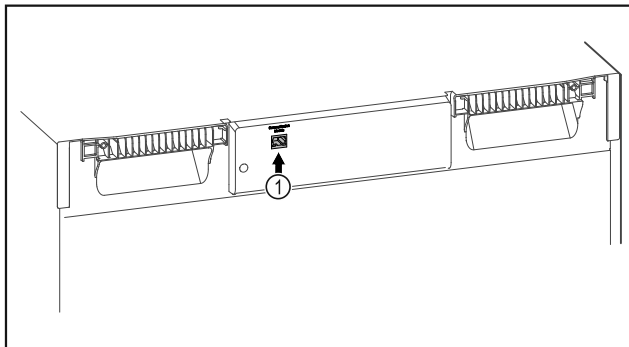

Fig. 127
- ❑ SmartModule Fig. 127 (1) is in use.